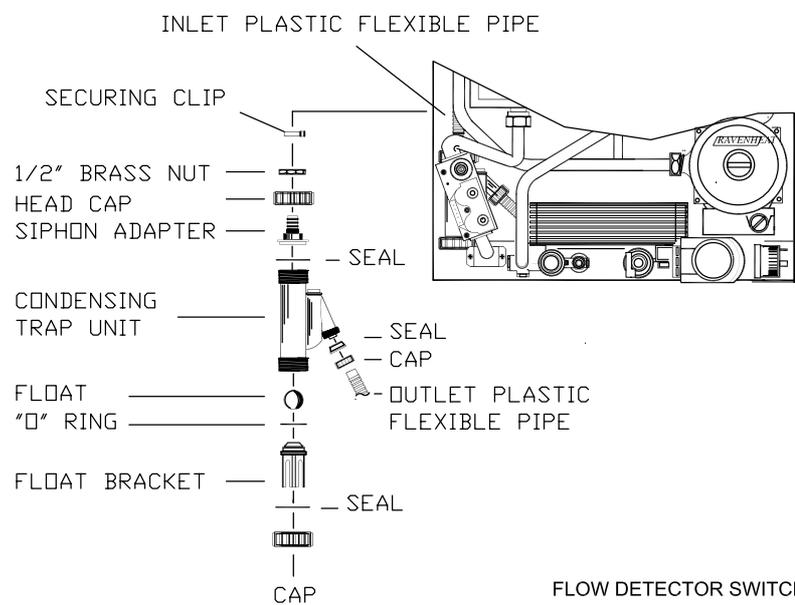

Fig. 55
7.20 TO REMOVE/REPLACE CONDENSING TRAP (fig.55).